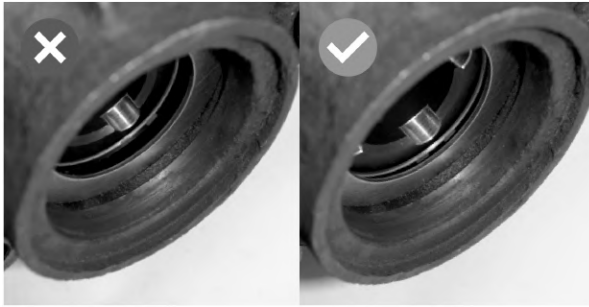
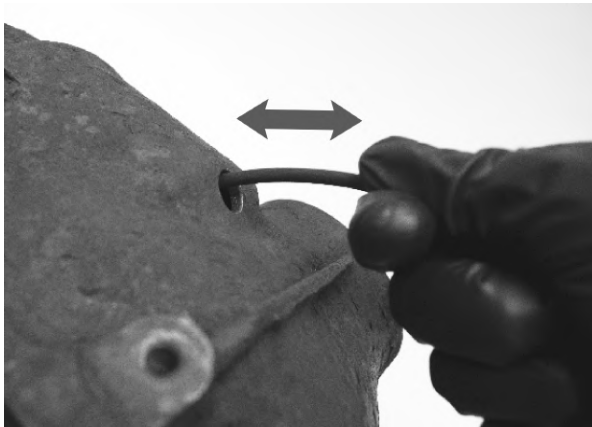

Fig. 33
Fig. 34
The **Figure 33** shows that when the magnet is not seated on the ribs, there is a gap between the inner and outer bearing races. When the magnet is properly seated, there is no gap.
Step 4. Begin installing the Electric Locker into the differential housing. While inserting the unit, slowly rotate the pinion gear using the pinion flange to allow the ring gear teeth to mesh correctly with the drive pinion. (**Fig. 31**) As the locker is seated, the housing ribs should engage the magnet recesses. Proper engagement can be verified by inspecting the outer bearing race through the drilled hole in the differential housing. If a gap remains visible between the outer and inner bearing races, the magnet has not yet seated on the ribs. (**Fig. 33.**) Next, verify magnet backlash. Gently pull the magnet cable back and forth. A small amount of movement and a faint clicking sound should be felt as the magnet rotates slightly in both directions. (**Fig. 34.**) If the magnet recesses do not engage the ribs, or if the Electric Locker does not